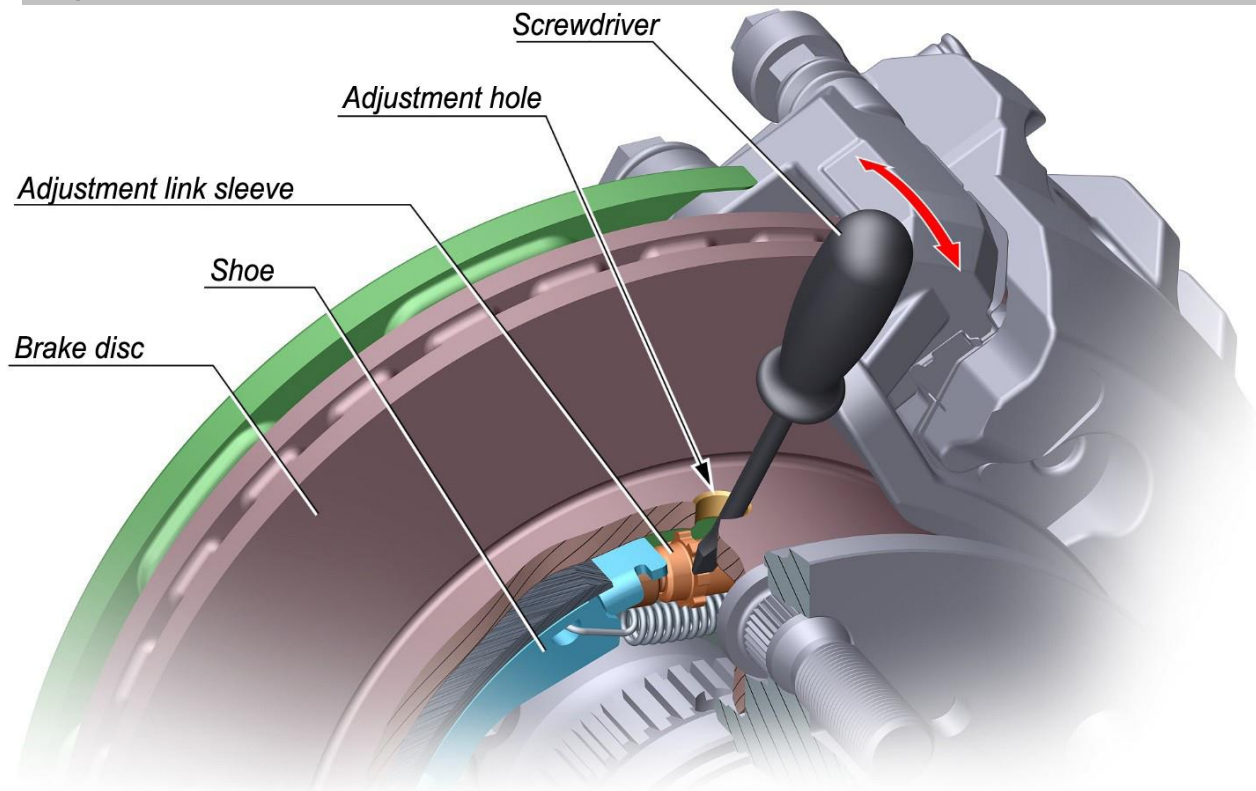

Fig. 6.11. Parking brake adjustment (without removal of hub with brake disc)
- turn the brake disc, aligning the adjusting hole in the disc with the teeth of the parking brake adjustment link sleeve (Fig. 6.11);
- remove the coupling 28 and clamping 6 springs (Fig. 6.11);